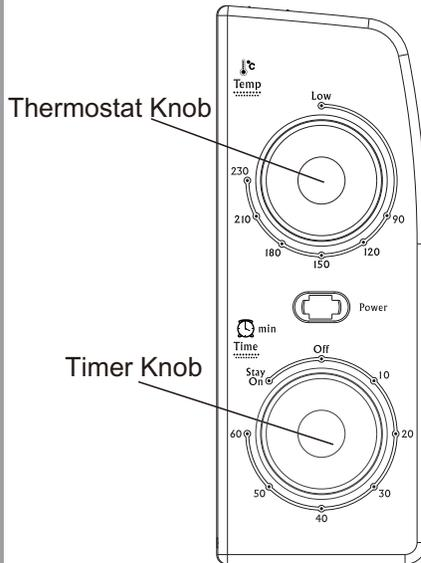

fig.2.
- 6、 After re-assembling your oven, turn the Temperature Knob to 220°C and turn the Timer Knob to 15 minutes to eliminate any oil coatings on parts after production. See fig.2.